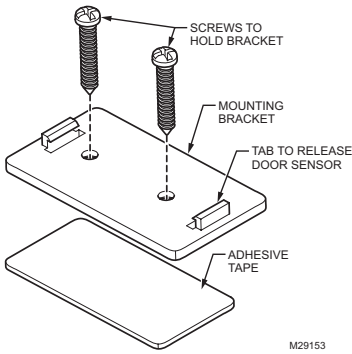

Fig. 6. Door sensor bracket mounting.
3. Place the mounting bracket for the door sensor high on the frame of the front door. Secure the bracket to the door frame by using the two screws or adhesive tape provided. See Fig. 6 on page 5.